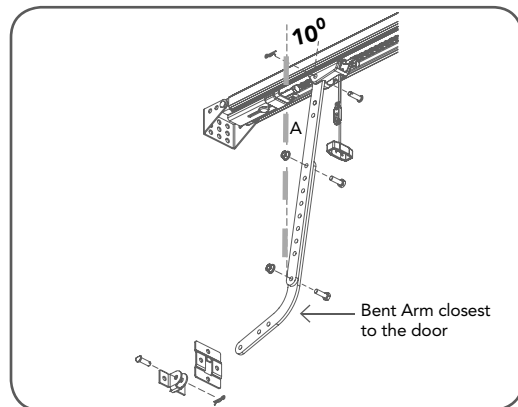

fig 19
- Connect the assembled arm to the bracket and the disengaged trolley with clevis and snap pins. The angle "A" must be more than 10° (**Fig. 19**). The bent section must be closest to the door.